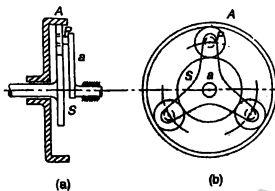

Fig.2
17. The annulus A in the gear shown in Fig.2, rotates at 240 r.p.m. about the axis of the fixed wheel S which has 80 teeth. The three armed spider is driven at 150 r.p.m. Determine the number of teeth required on wheel P.